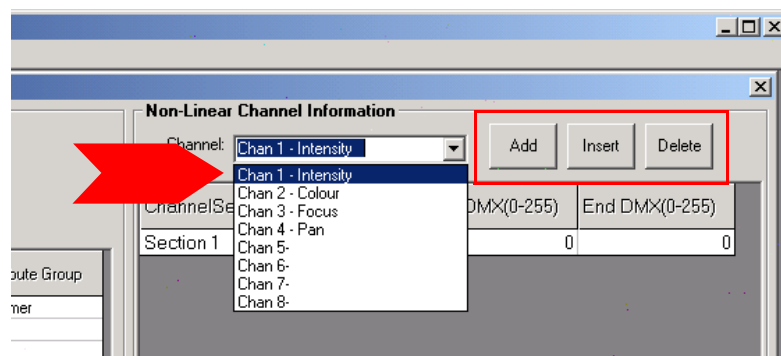

Figure 13: Non-Linear Attributes - Add, Delete, or Insert Channel Information
Step 1. As shown in **Figure 13**, select a channel from the Channel pulldown menu.